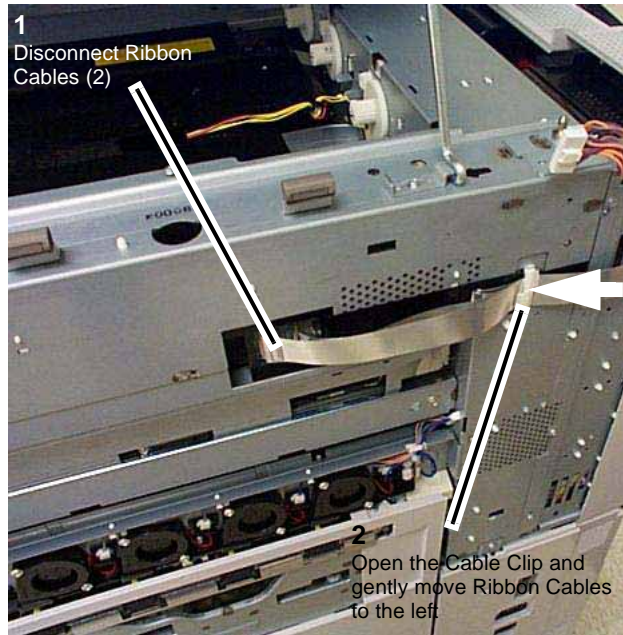

Figure 4 Disconnecting Ribbon Cables
8. Disconnect Ribbon Cables (Figure 4).